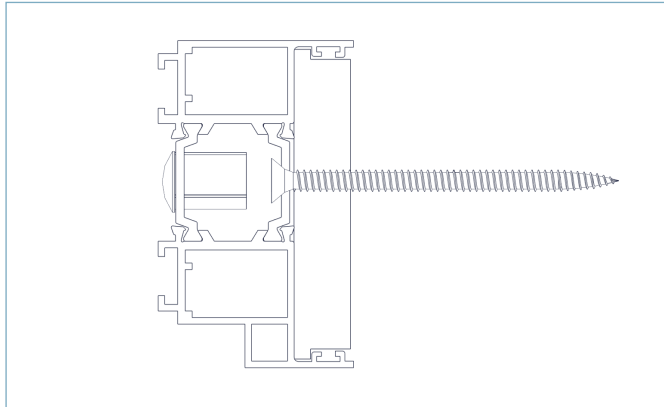

FIG 5B
► **5.2.** Using a 13mm drill bit, make a hole in the outer layer of polyamide, level with the centre of each jamb packer. This will allow installation of the fixing plug as shown in FIG 5B.